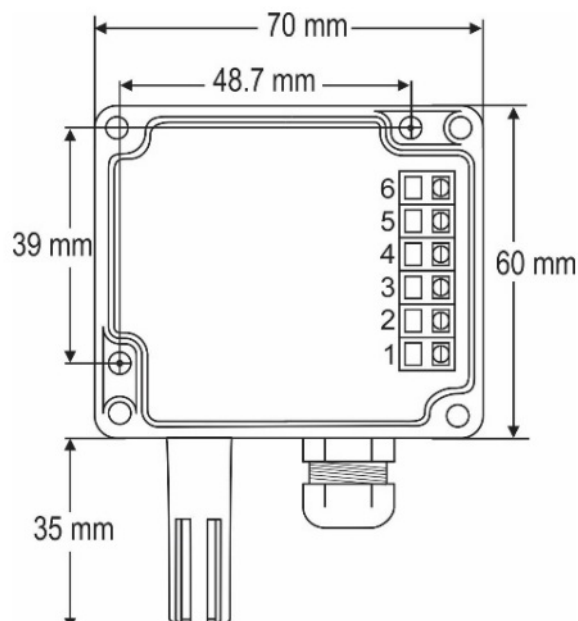

Figure 3 – RHT-WM fixing holes and housing dimensions
- The RHT-WM (Wall Mount) model must be attached to the wall. By removing the transmitter cover, you can access the two fixing holes and the connector, as shown in Figure 3. To ensure the specified accuracy and protection degree, you must mount the transmitter with the sensor capsule facing down.